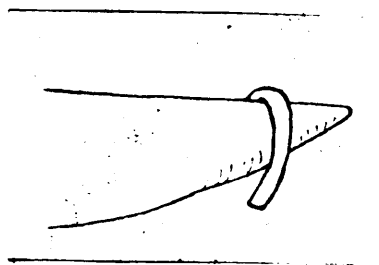

Figure 6.
4. Heat stock again and bend one-third of the stock over the anvil horn. Then bend the other end. (Figure 6).